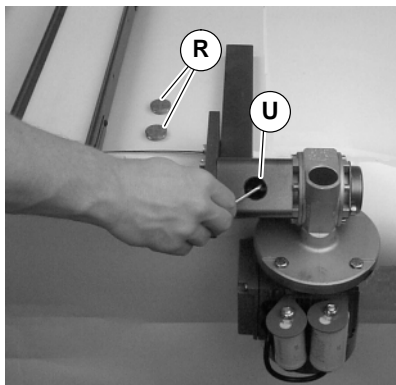

Figure 30
12. Tighten coupling set screws (U of Figure 30). Replace inspection plugs (R).